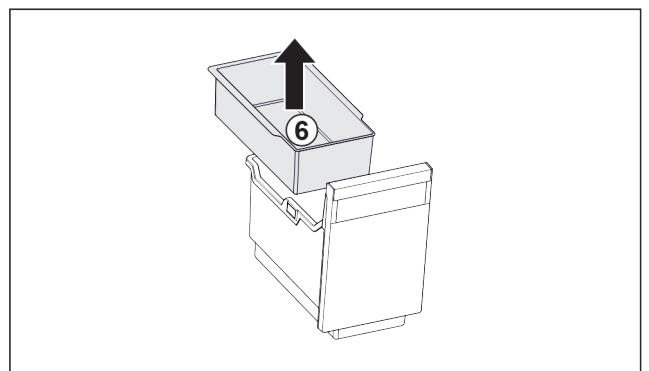

Fig. 90
- Remove the hang-on tray Fig. 90 (6).